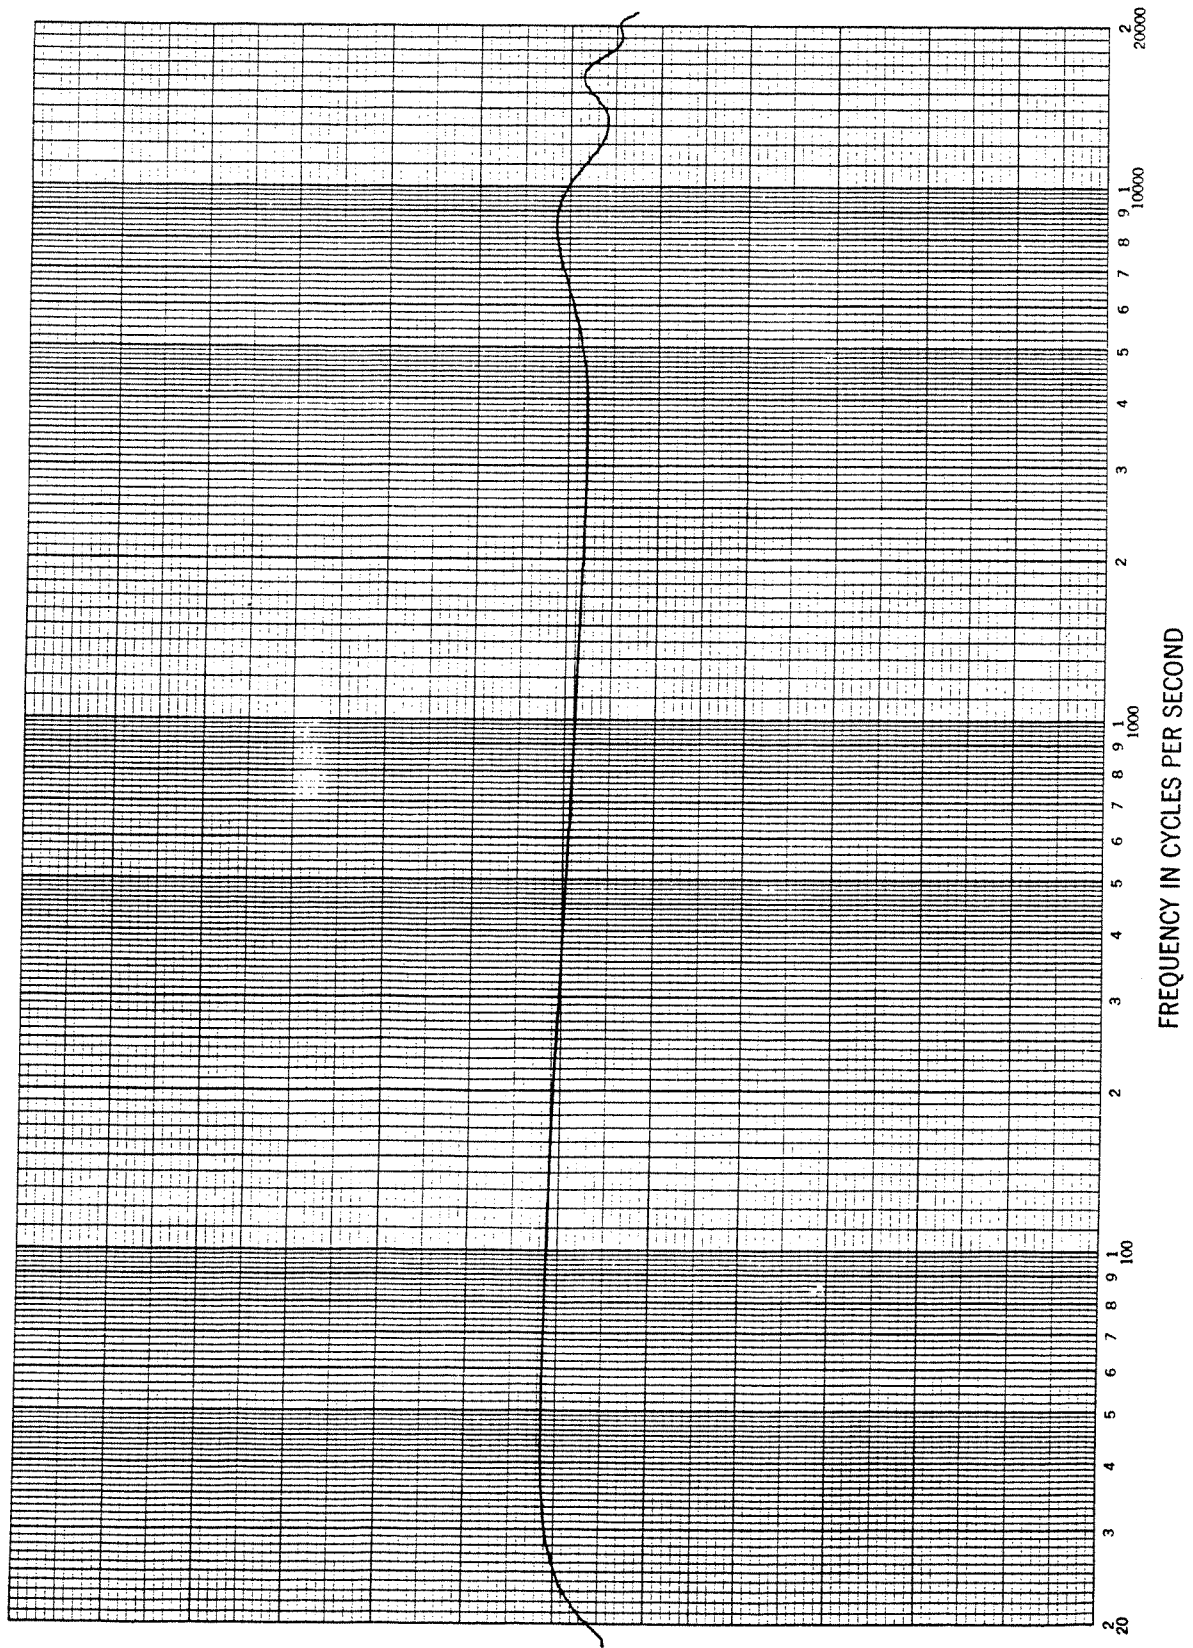

Figure 3.2. Through 480L System - 1 Channel - 1 dB/in.
2. Sweep the oscillator from 20 Hz to 20 kHz. Verify that the unit meets specification (+.5 dB / -1 dB from 1 kHz reference) at all outputs. Refer to sample plot in Figure 3.2.